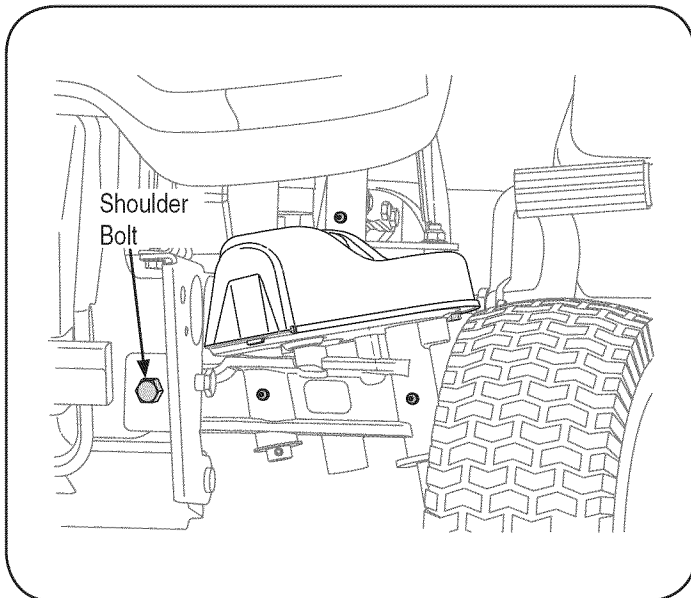

Figure 18
- a. Support the pivot bar, then remove the hex lock nuts securing the two shoulder bolts that pass through the pivot bar bracket, the pivot bar, and frame. Refer to Figure 18.